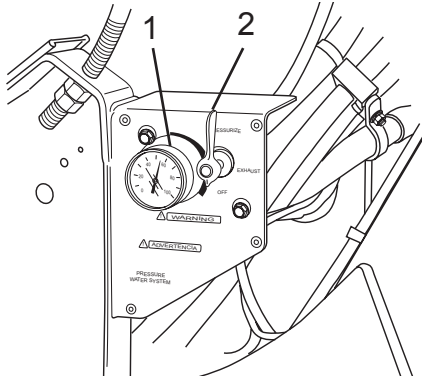

Figure 79
2. Turn air pressure control valve to the PRESSURIZE position (Figure 79, Item 1). The water tank will be pressurized from the chassis air system. The air gauge (Figure 79, Item 2) will indicate the pressure in the water tank. The pressure must not exceed 55 PSI (380 kPa).